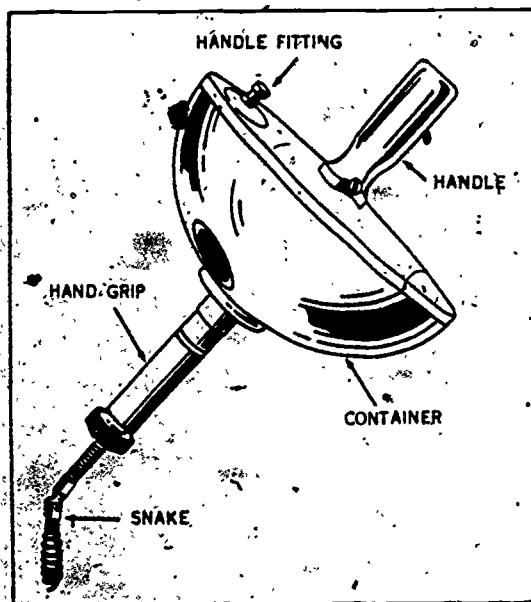
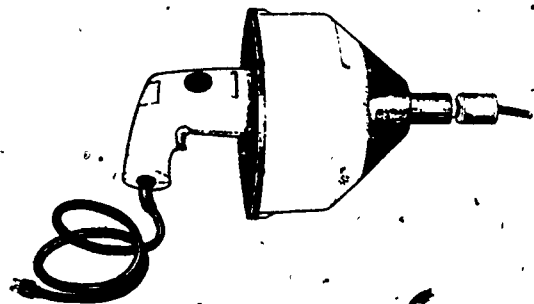

Figure 5-15. Top sink snake.
Figure 5-16. Power-driven auger for sink and lavatory drains
*Using a sink snake to clear drains.* If you cannot remove the stoppage from the drain with a vacuum plunger, you may have to use a sink or sewer snake to dislodge the stoppage. These snakes are constructed of coiled, tempered wire which is extremely flexible. They are generally 15 to 25 feet long, with a diameter of approximately 1/4 inch. Each snake is equipped with a type of crank that is used to rotate the snake as it is pushed into a clogged drain. As you can see in figure 5-15, a sink snake is housed in a toplike container. This unit is also called a top sewer snake. Figure 5-16 illustrates a power-driven auger used for cleaning lavatory and sink drains. When you use this snake, the top is rotated as the snake is pushed into the drain. In some cases, you may have to remove the trap and elbow from the drain before the sewer snake is pushed into it. Push the snake down the drain and rotate it; then feed it further and rotate it again. Continue this operation until you pierce the obstruction. Usually it is